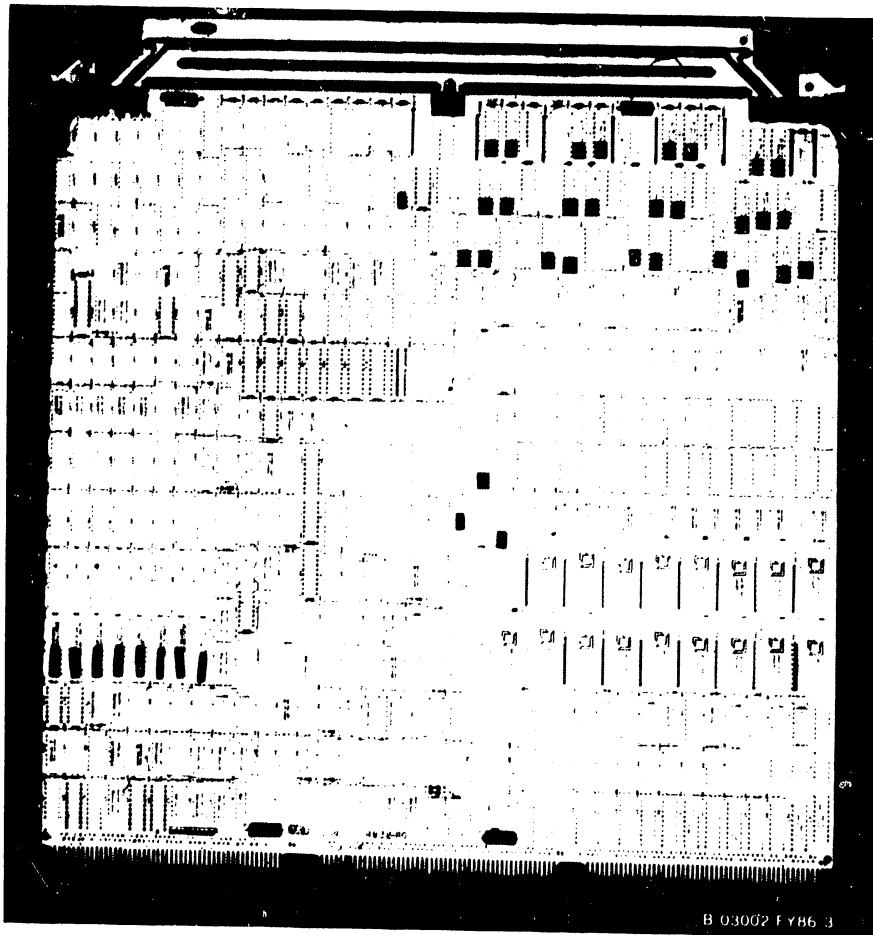

Figure 7-8. 210-9830 Floating Point Unit
6. Remove the Floating Point Unit (FPU) (figure 7-8) from backplane slot #1 by lifting the snap locks to free the board from the card cage connectors. Once the board is free of the connectors, ease it forward in the board guides and out of the board cage.